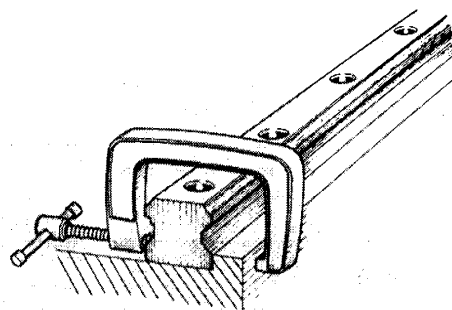

Fig. 21
- After temporary tightening of the mounting bolts, use a small vice etc. to push the rail at the position of the mounting bolt against the side datum plane, and then tighten the mounting bolt securely. Repeat this procedure in sequence for each mounting bolt. (Fig. 21)